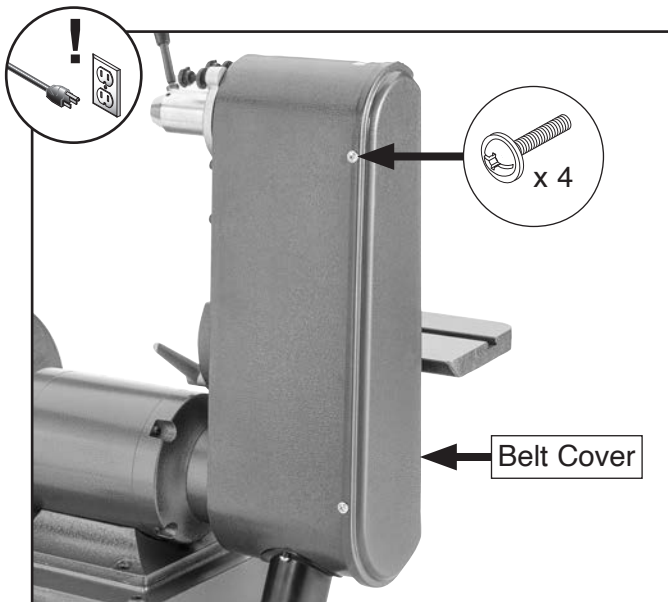

Figure 38. Location of belt cover and securing screws.
2. Loosen (4) belt cover screws shown in **Figure 38**, then remove belt cover.